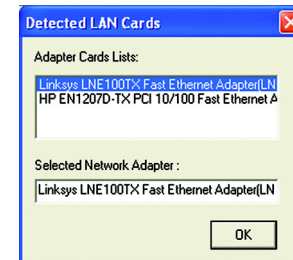

Figure 7-21: Detected LAN Cards
- 2 The *Detected LAN Cards* screen will appear, as shown in Figure 7-21. Select the LAN card the PrintServer is connected to, and then click the **OK** button.